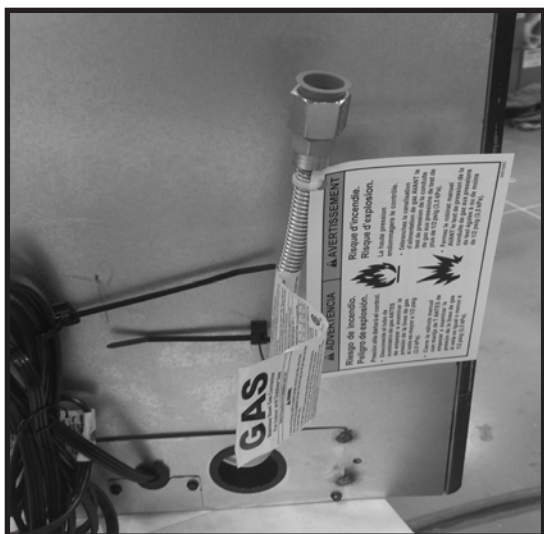

Figure 4.1
- Install gas line to the factory provided flex line. See Figure 4.1.